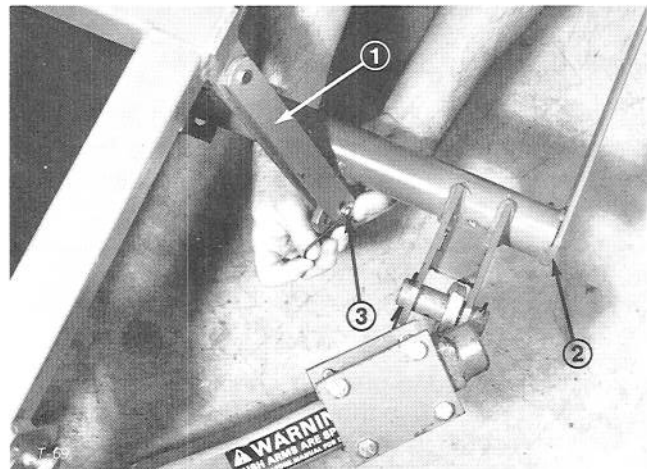

Figure 8
8. Secure lift straps to hitch adapter on both sides with clevis pin, washers and hair pin (Fig. 8).